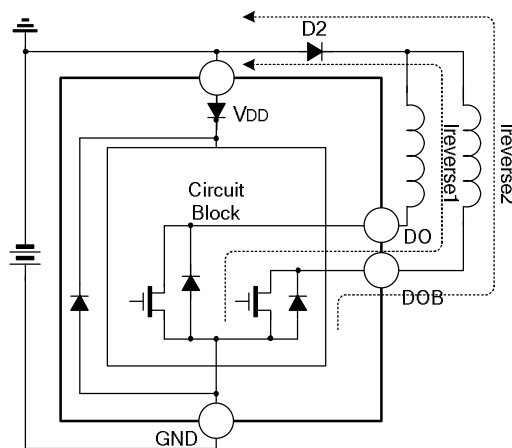

Fig.3 Reverse voltage state
3. SD1579 has built-in reverse protection diodes, so D1 is no need; If you increase the D1 can better protect the chips, as shown in Figure 3; it should be noted that care should to taken to the two coils current when power voltage reversed, if $2 * V_o * I_{load} > IC's \text{ power consumption}$, it may cause damage to IC;